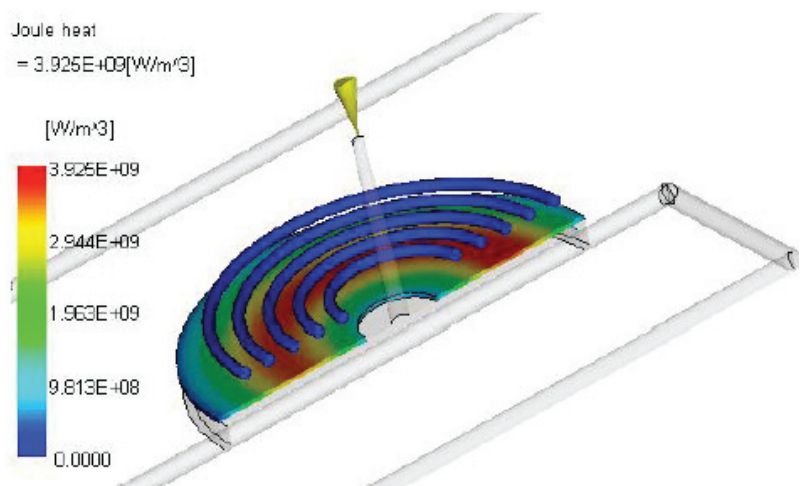

Figure 5: Joule heat generated on insert surface.
The induced electric current gives rise to joule heating within the mold and the insert. Joule heating is given by equation (23). By carefully selecting the materials in the mold the induced current can be used to generate heat in targeted areas. **Figure 5** shows joule heat being generated on the surface of the nickel insert.